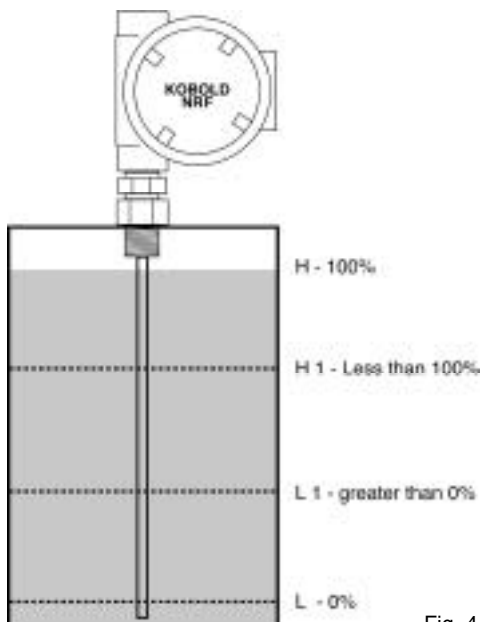

Fig. 4
Three calibration procedures are described. Follow the one which fits your application. Note the following definitions used in the calibration procedures, referring to Fig 4.
1. Fill the tank to its **L1**, some point above 0% level and record this level as **L1**. See Fig. 4. To determine the loop current at **L1** level use the following formula: